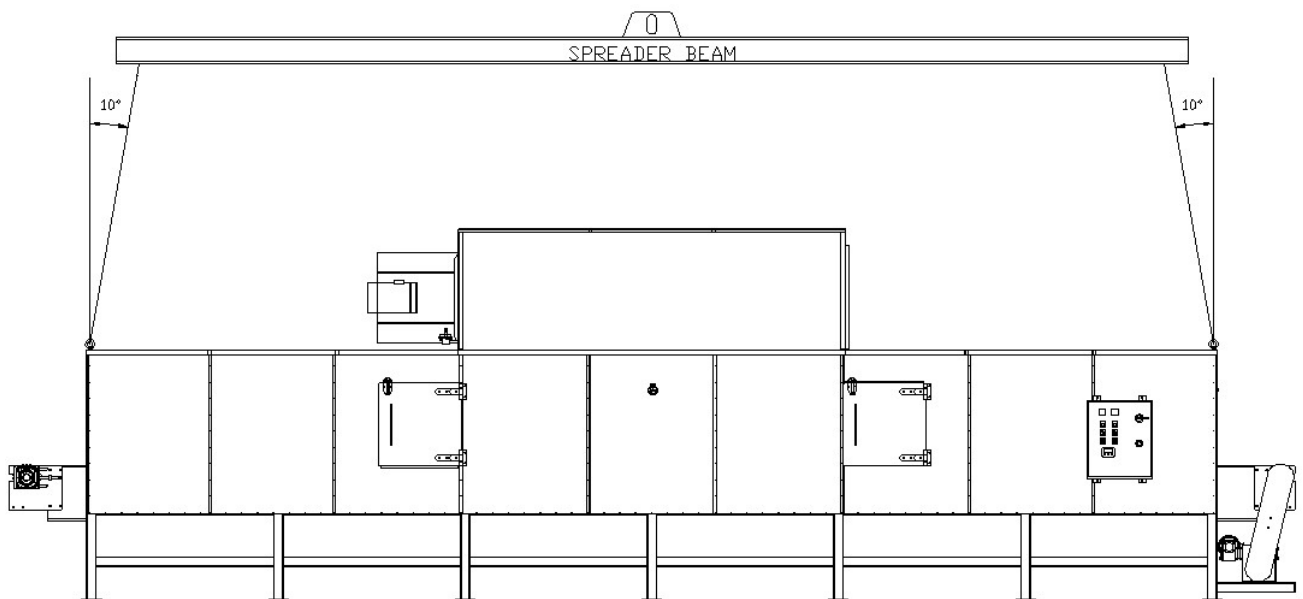

FIGURE 1-2.1A
Special care must be taken in handling this equipment due to its configuration, size and weight. Lifting lugs are provided at the (4) top corners on most models. It is important to note that rigging cables or chains must not exceed a maximum angle of 10 degrees from vertical (see figure 1-2.1a). Use a spreader beam, or rigging of adequate length, to avoid damage to the equipment.